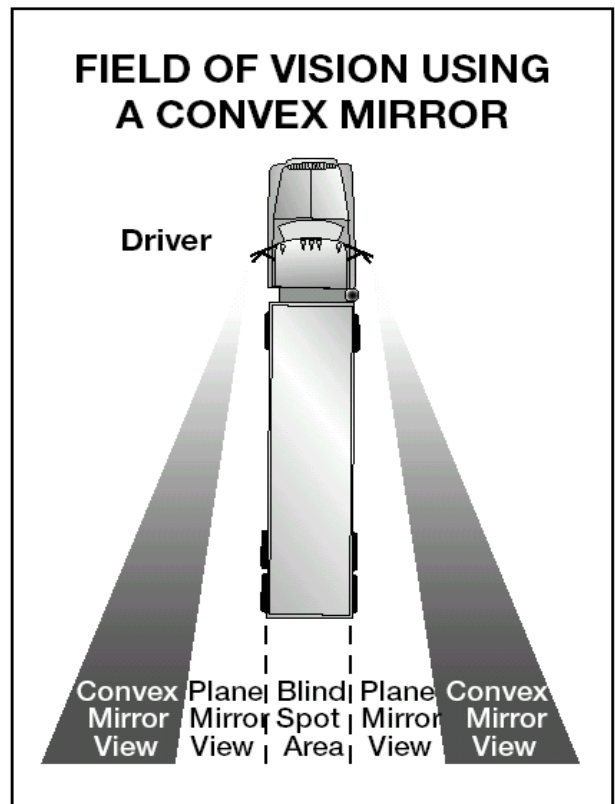

Figure 2.7
**Many large vehicles have curved (convex, "fisheye," "spot," "bugeye") mirrors that show a wider area than flat mirrors. This is often helpful. But everything appears smaller in a convex mirror than it would if you were looking at it directly. Things also seem farther away than they really are. It's important to realize this and to allow for it. Figure 2.7 shows the field of vision using a convex mirror.**